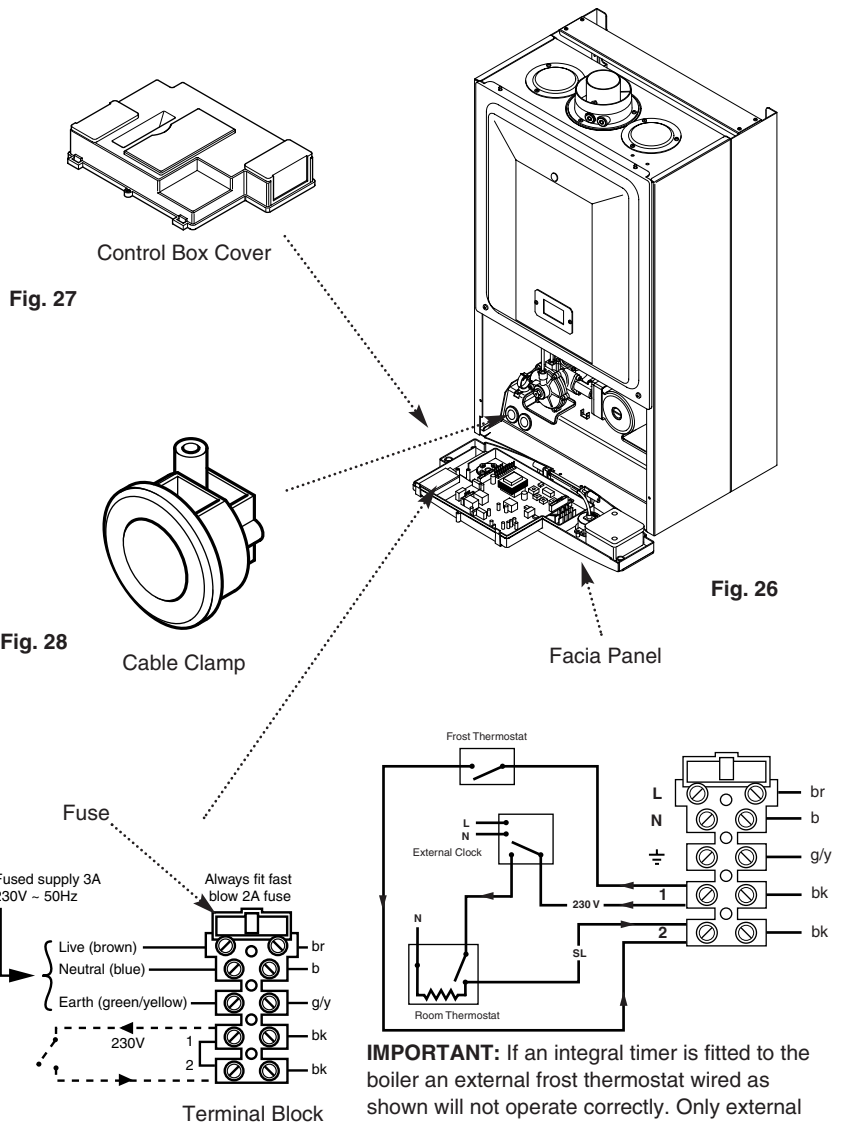

Fig. 29
7. To connect external control(s) remove the link between terminals 1 & 2. The 230V supply at terminal 1 can be connected to the external control. The switched output from the external control must be connected to terminal 2. (Fig. 29).
NOTE: If the room thermostat being used incorporates an anticipator it **MUST** be wired as shown in Fig. 29.